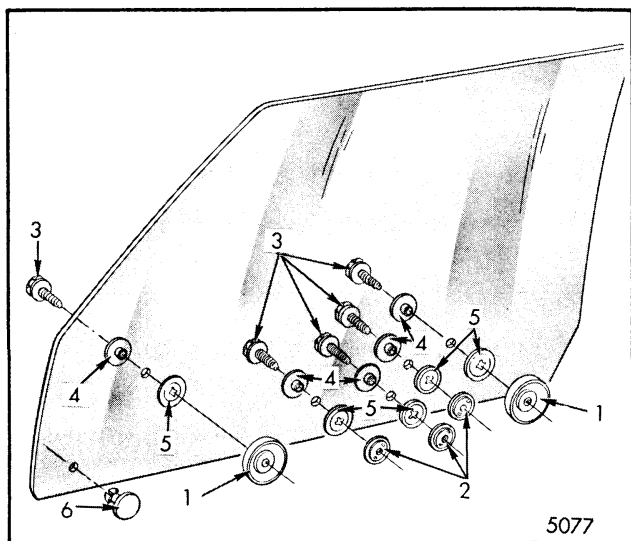

Fig. 5-90-Front Door Window Assembly - "B, C and E" Two-Door Hardtop and Convertible Styles
Figure 5-90 is an exploded view of the window assembly and identifies the various components and their assembly sequence.
5. With glass in partially-down position loosen rear stationary up-travel stop on glass ("1", Fig. 5-90). Then, raise door window assembly to approximately 1" from the full-up position, as
9. Lower window and remove gauge blocks from weatherstrip retainer. Then, tighten rear stationary up-travel stop on glass ("1", Fig. 5-90) and reinstall and seal weatherstrip as previously described.